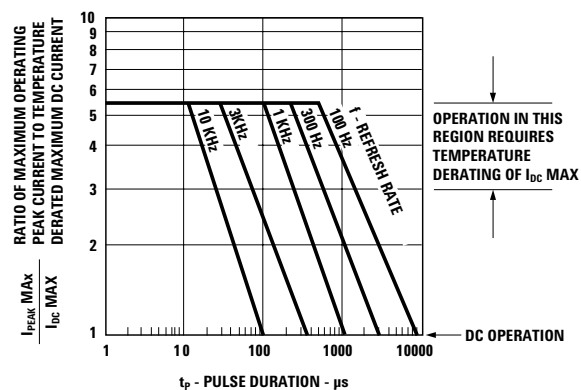

Figure 2. Maximum Tolerable Peak Current vs. Pulse Duration – AlGaAs Red.
- See Figure 2 to establish pulsed operating conditions. Maximum pulse width is 1.5 ms.